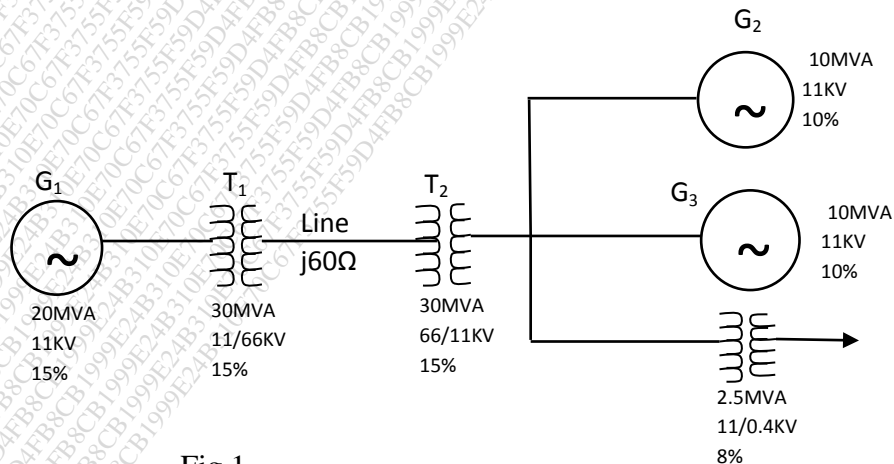

Fig.1
b) Draw the per unit reactance diagram for $3-\phi$ system shown in fig1. Use base of 20MVA & 66 KV. 08